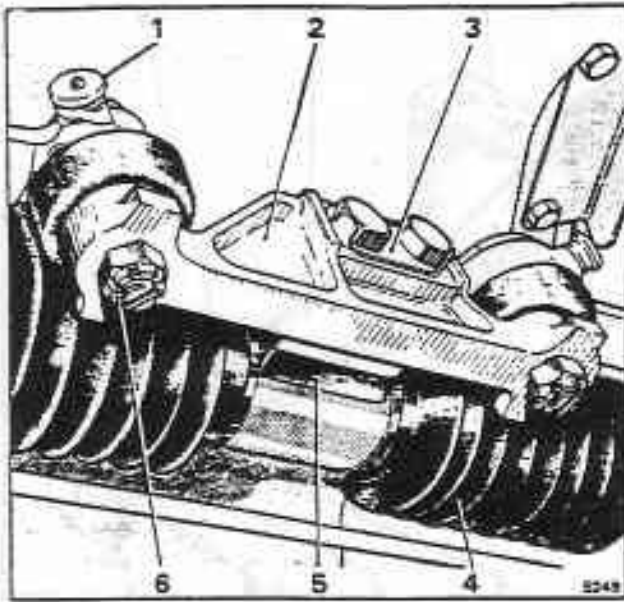

Fig. N1-10 Inner ball joint bracket in position
3. Align the spacer between the inner ball joint bracket and the steering unit centre block seal (see fig. N1-10).